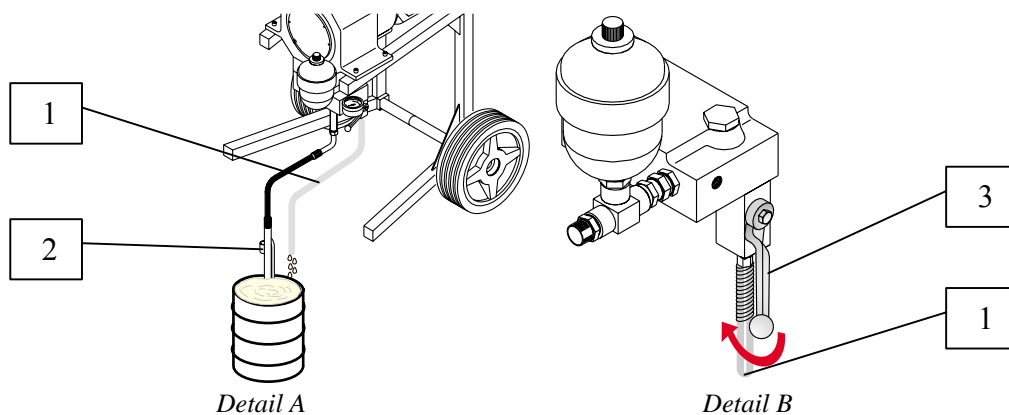

Fig.18
- 7) A few seconds after starting the motor the product will start to come out of the discharge pipe (fig. 18, detail A). The discharge of the product shows that all air has been expelled from the system. Close the discharge tap (fig. 18, detail B).